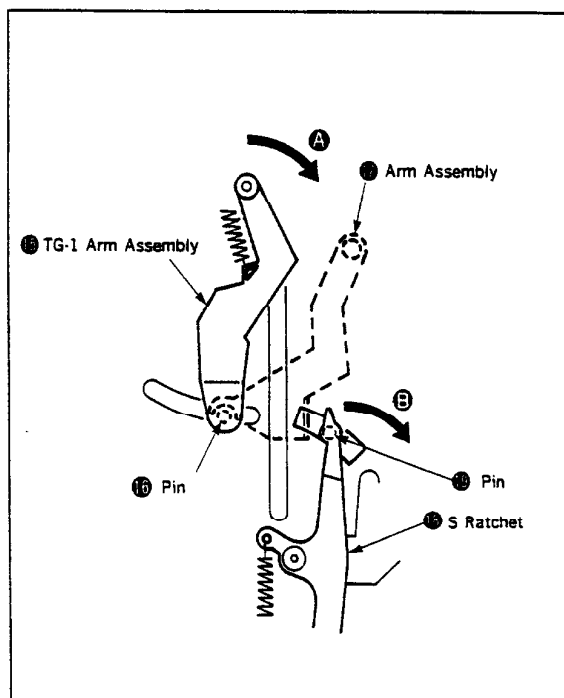

Fig. 17
- 4) Move the TG-1 arm assembly ● in a direction of the arrow ● to put the pin ● into the concave of the arm assembly ●. (Fig. 17)
- 5) put the pin ● of the S ratchet ● into the right side the of the arm assembly ●. (Fig. 17)